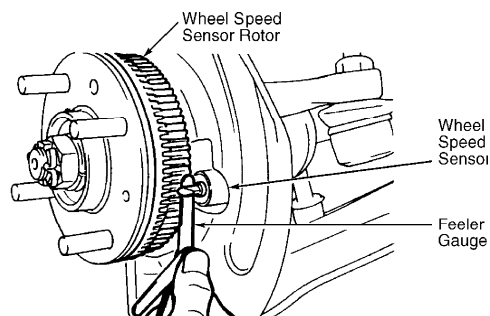

Fig. 1: Checking Wheel Speed Sensor-To-Rotor Gap (Typical)
2) Using a feeler gauge, check clearance between speed sensor pole and rotor tooth surface. See Fig. 1. Front sensor clearance should be .008-.390" (0.2-1.0 mm). Rear sensor clearance should be .012-.035" (0.3-0.9 mm). If clearance is not within specification, loosen sensor mounting bolt. Adjust sensor position until clearance is within specification. Tighten sensor mounting bolt to 84 INCH lbs. (120 N.m).